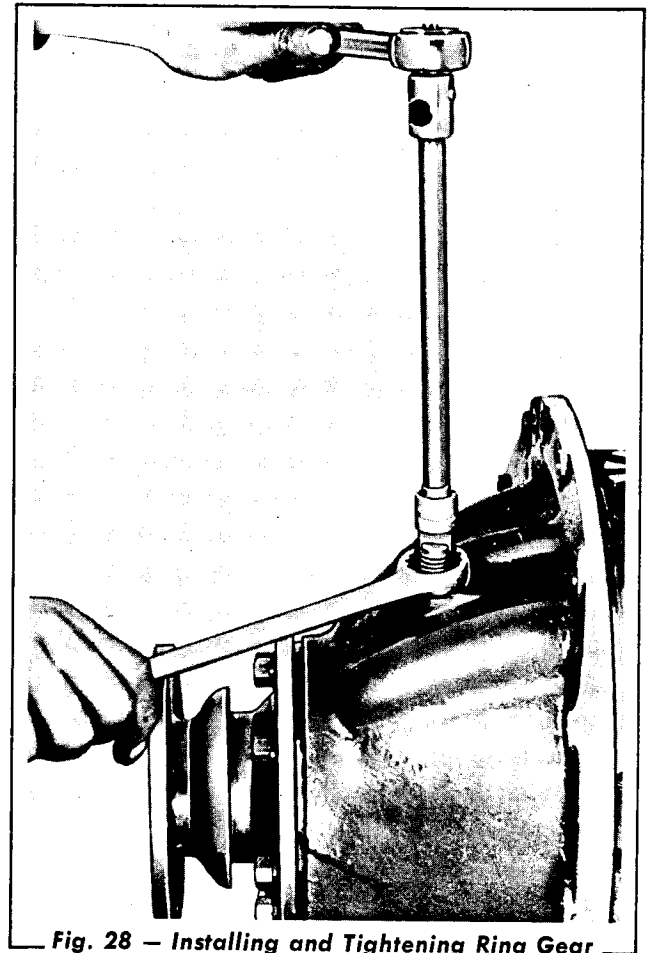

Fig. 28 — Installing and Tightening Ring Gear Thrust Block
4. Install the adjusting screw and the locknut and tighten adjusting screw sufficiently (Fig. 28) to locate the thrust block firmly against the back face of the hypoid gear. Then loosen the adjusting nut $\frac{1}{4}$ -turn so as to obtain .010" to 0.015" clearance between the thrust block and rear face of the hypoid gear.